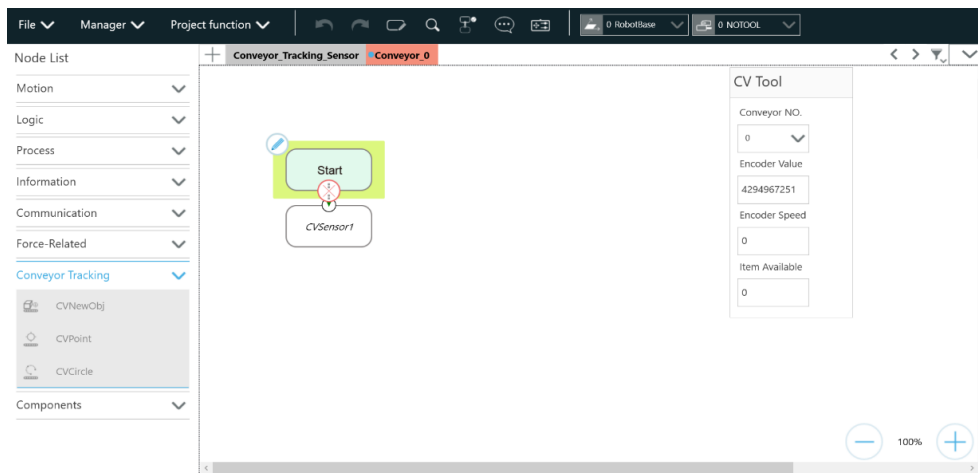

Figure 18: Start the project
- C. Another is the sub-thread, which is Conveyor\_0 in **Figure 18**. This thread is configuration-only and cannot add any node.